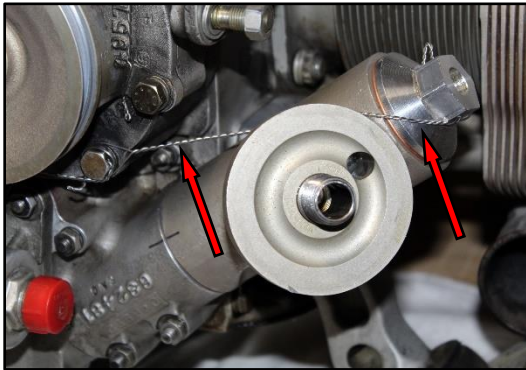

Figure 13
- a. spool to the engine (Figure 13) and,